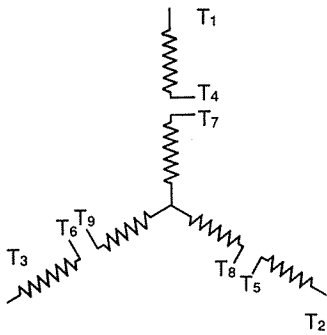
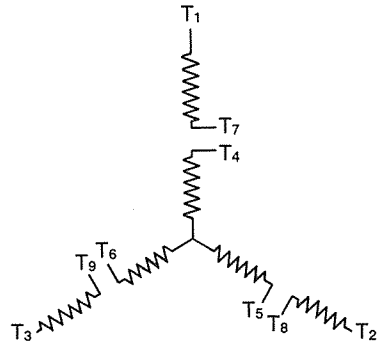

Fig. 1 - Dual-Voltage Three-Phase Star Connection
Fig. 1a - Dual-Voltage Star Connection (obsolete)
A. Three-Phase Star Connection—This type of motor will have nine leads and four separate circuits, as shown in Figure 1. Three circuits have two leads each, and the fourth has three leads. The circuits should be tested out with a lamp or buzzer, and the three leads on a common circuit forming the internal star should be permanently tagged T-7, T-8 and T-9 in any order. The other leads should be temporarily tagged T-1, T-4 for one circuit; T-2, T-5 on the second circuit; and T-3, T-6 on the third circuit. It will be assumed here that in all cases of double voltage the motor is wound to operate on 220-440 volts, as this is the most common voltage range. For any other voltages all the following test voltages should be changed in proportion to the motor rating.
The connection plate mounted on the motor may disagree with the lead markings as determined herein and shown on Figure 1, indicating that markings T-4 and T-7 are interchanged, as well as T-5 and T-8, and T-6 and T-9. Lead markings as shown on Figure 1 is the present NEMA standard, whereas, Figure 1a illustrates the lead marking as formerly used on some dual-voltage star connected motors. When re-marking motor leads it is recommended that the present standard marking be adhered to in every case, and where necessary the connection plate be revised or replaced.